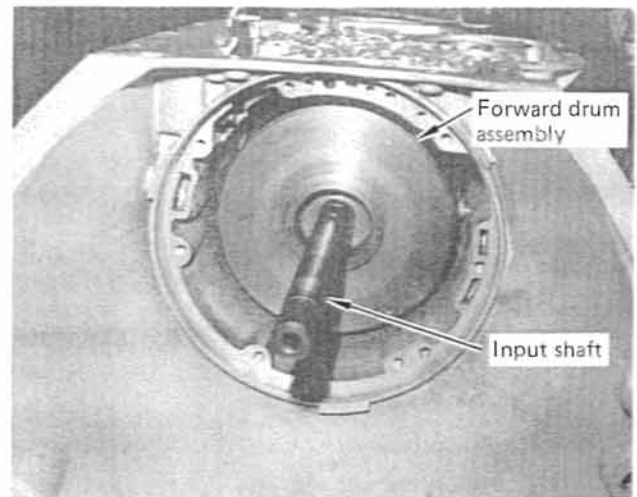

FIGURE 10
**STEP 13.** Grasp input shaft and remove input shaft/forward drum assembly. (See Fig. 10) Make sure you don't lose the thrust washer on the splined hub on the back of the drum assembly as it may stick to the direct clutch drum still in the case. Set the forward drum assembly aside.